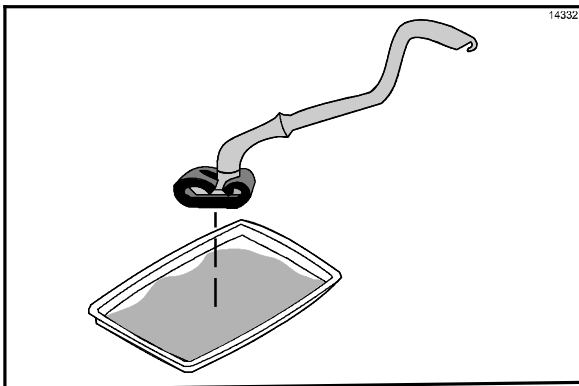

Figure 88
14. Dip the Kay Grill Cleaning Pad Holder into the grill cleaner. (See Figure 88.)